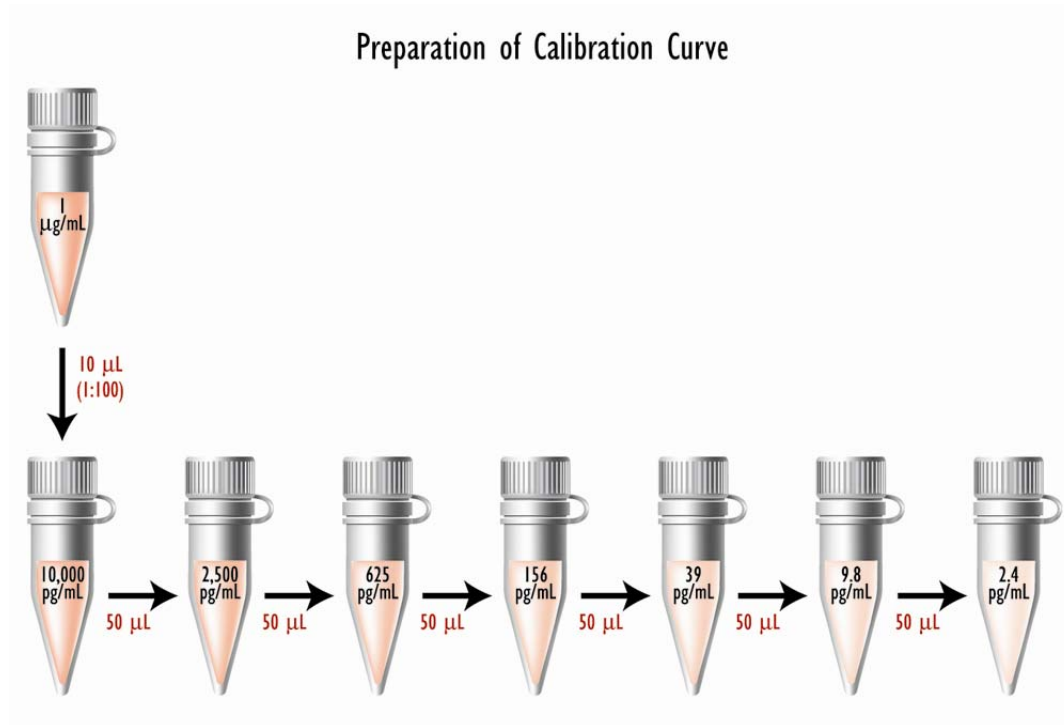

Figure 3. Calibration curve preparation from stock solution (1 µg/mL).
1. **Addition of Sample or Calibrator:** Dispense 25 μ L of each Calibrator or Sample Solution into a separate well of the MSD plate. Figure 3 illustrates one plate arrangement of calibrator solutions that can be used to evaluate the performance of the assay. Seal the plate with an adhesive plate seal and incubate for 1 to 2 hours with vigorous shaking (300-1000 rpm) at room temperature. In general, shaking the plate results in better mixing and more rapid binding of the sample to the capture antibodies. If a protocol without shaking is preferred, a longer incubation time (4 hours or longer) may be required to achieve the same sensitivity.